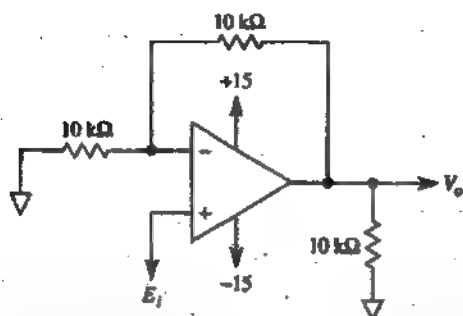

FIGURE P3-9
- 3-9. Identify the circuit in Fig. P3-9 and calculate V_o , if E_i equals (a) +5 V; (b) -2 V. Compare your results with Problem 3-5.
- 3-10. Repeat Problem 3-7 except apply it to Fig. P3-9. Compare solutions of both problems to distinguish between inverting and noninverting operation.